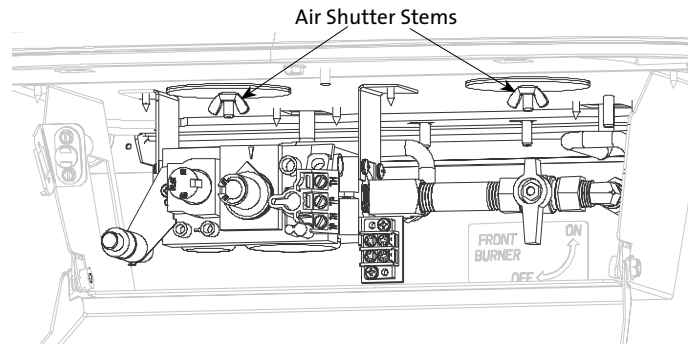

Figure 10.1.
1. Reach under the stove and loosen the Air Shutter wing nuts. The RIGHT shutter controls the REAR Burner. The LEFT shutter controls the FRONT Burner. See fig. 10.1. Slide the wing nut stems forward toward yourself to open the air shutters and back to provide less air. Before making any adjustments, start at the factory shutter settings: